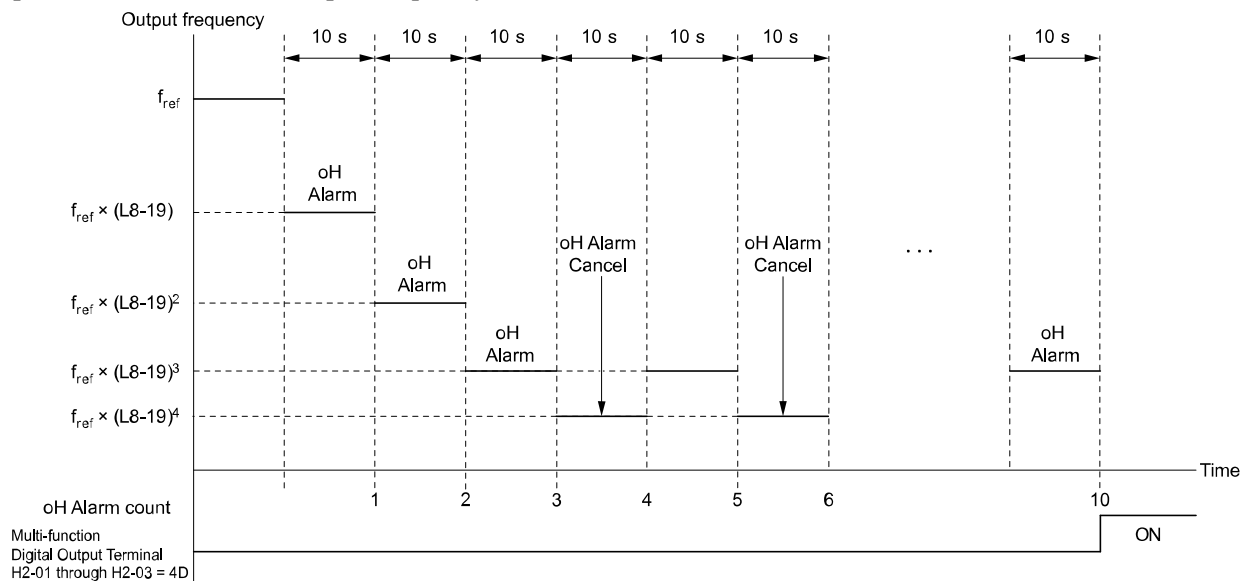

Figure 2.142 Drive Operation at a Decreased Output Frequency when the Overheat Alarm is Output
*oH* flashes on the keypad. When the alarm is output, the drive decelerates each 10 seconds. If the drive decelerates 10 times and the alarm continues to be output, the output terminal set for *oH Pre-Alarm Reduction Limit [H2-01 to H2-03 = 4D]* activates. When the alarm is not output during deceleration, the drive accelerates until it is at the frequency reference that was applicable before the alarm was turned off. Figure 2.142 shows the output of the alarm and the drive operation at a decreased output frequency.